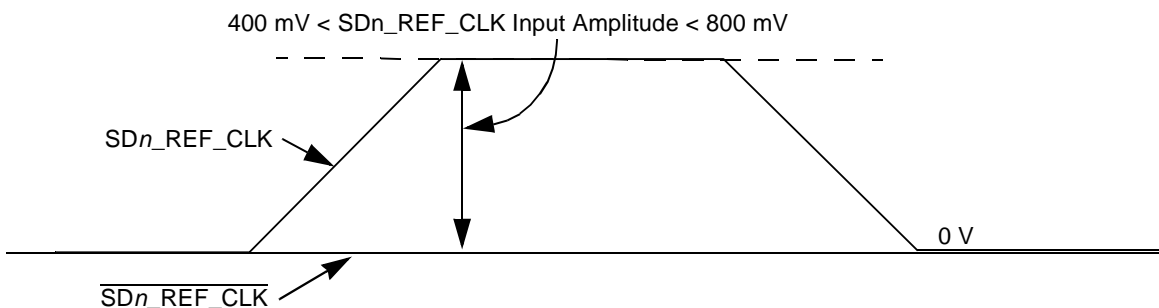

Figure 48. Single-Ended Reference Clock Input DC Requirements
- The SDn_REF_CLK input average voltage must be between 200 and 400 mV. Figure 48 shows the SerDes reference clock input requirement for single-ended signaling mode.